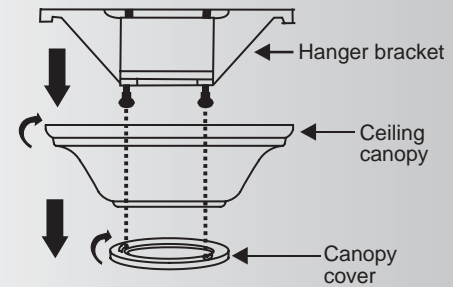

Fig. 5
Step 1. Remove the decorative canopy bottom cover from the canopy by turning the cover counter clockwise. (Fig. 5)
Step 2. Remove the hanger bracket from the canopy by loosening the two screws on the bottom of the hanging bracket. Turn the canopy counterclockwise and remove. (Fig. 5)